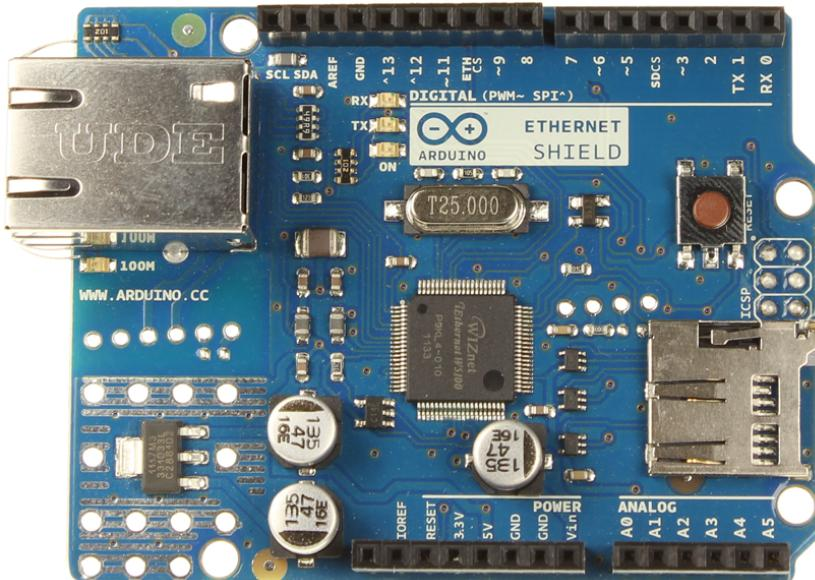

Figure 13-9: Arduino Ethernet SD shield
- **Official Arduino Ethernet SD shield** (www.exploringarduino.com/part/arduino-ethernet-shield) : The Arduino Ethernet shield allows your Arduino to connect to a wired network. It implements an SD card interface, as well, although its primary purpose is to allow for the storage of files to be accessed over the network. Both the Ethernet controller and the SD card are SPI devices on this shield; the Ethernet controller CS is connected to pin 10, and the SD card CS is connected to pin 4 (see Figure 13-9).